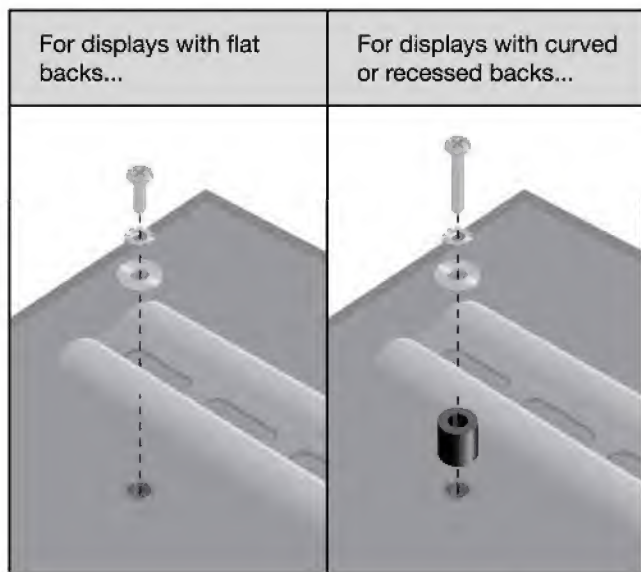

Fig. 4 - Use a longer bolt and spacer for displays with curved or recessed backs. Do not use the M6 Washer (O) if you are using the M8 Bolts (J or K).
1. Examine the back of your television. If the back of your display is flat, you will be using one of the shorter bolts from the hardware kit. If the back of your display is curved or recessed, you will be using one of the longer bolts and a spacer (Fig. 4).
3. Attach the arms to the back of your display using the bolts identified in Steps 1 and 2 and the corresponding Lock Washer (C, F, I, or L) (Fig. 4). You will need to use the M6 Washers (O) if you are using the M4, M5, or M6 bolts. If your display has a curved or recessed back, you may also need to use a Spacer (M or N).